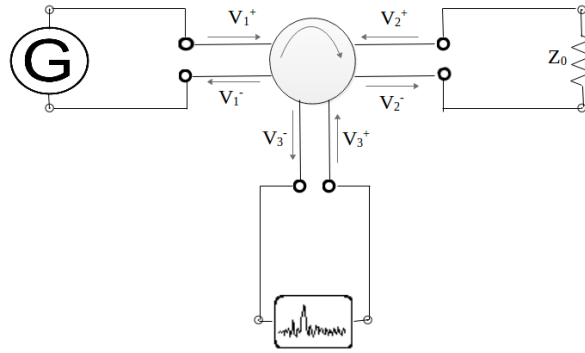

Figure 4: Measure Isolation at port3 ,Matched Load at Port2
- The set up would like figure 4.
- (7) Measure the loss at the spectrum analyzer. Record the measured values as in the table below.